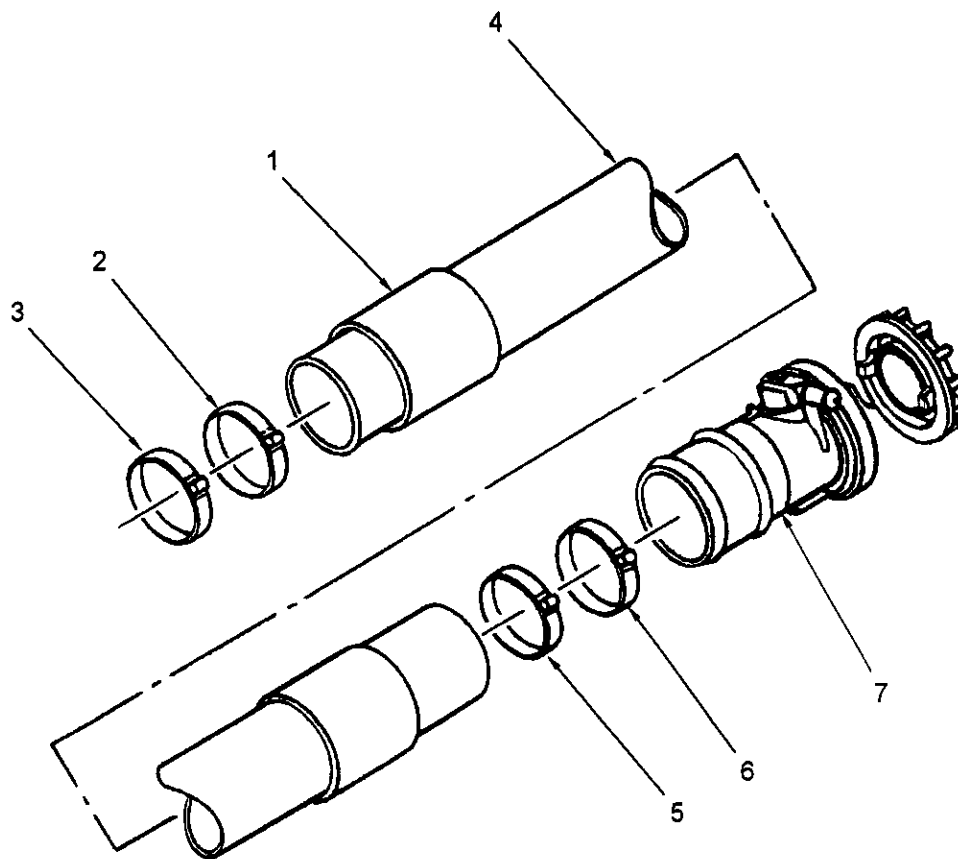

Figure 4-7. Fuel Hose Disassembly and Cleaning
a. Disassembly. (Figure 4-7)**WARNING**
c. Inspection. (Figure 4-7)
- (1) Inspect valved unisex coupling assembly (7) for cracks, corrosion and damaged coupling body.
- (2) Inspect hose (4) for cuts, tears, punctures, bulges and delamination.
- (3) Inspect ends of hose (4) for damaged or missing ground wires. Perform continuity test of ground wire from one end of hose to the other. Continuity must exist.
- (4) Inspect ground wires at both ends of hose (4). At least 1/2 inch of wire must be exposed. If required, trim back hose material to obtain correct wire length.
- (10) Repeat steps (1) through (7) for remaining clamps. Clamps should be 1 inch from end of hose and 2 inches apart.
- (11) Refer to Figure 4-7 and slide sleeve (1) over clamps (2 and 3).
- (12) Start up fuel system and observe repaired hose for leaks.